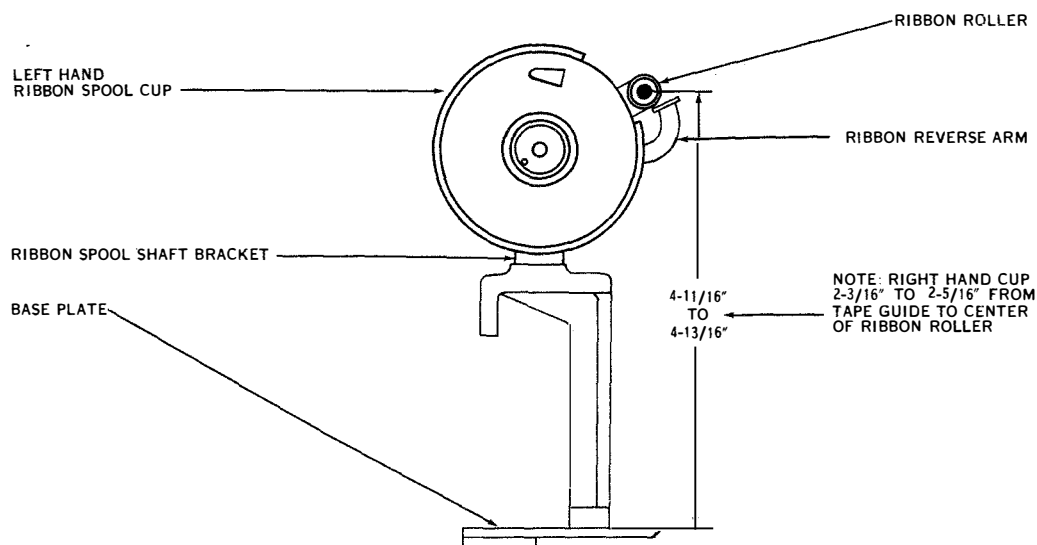

Figure 7-42. Ribbon Spool Cup
(32) RIBBON SPOOL CUPS. (See figure 7-42.)—The center of the left-hand ribbon roller should be 4-11/16 to 4-13/16 inches from the reperforator base plate. The center of the right-hand ribbon roller should be 2-3/16 to 2-5/16 inches from the top surface of the tape guide. To adjust, loosen the lock nut and position the ribbon spool cup. Hold the cup in position and tighten the lock nut.